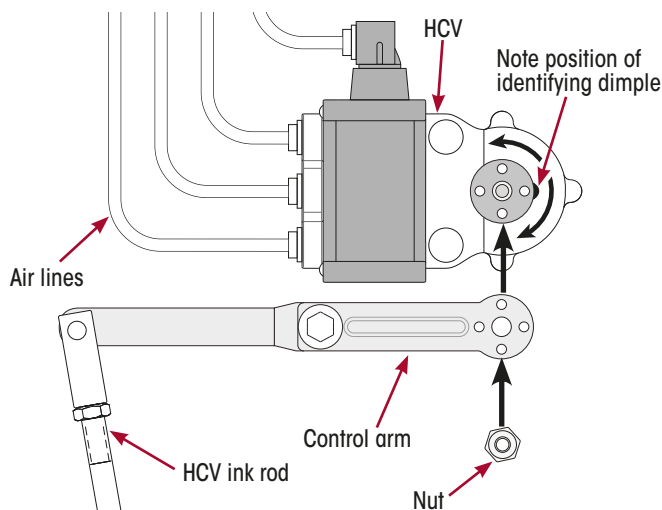

Figure 3: Note Component Location & Orientation
5. Find and carefully note the orientation and position of the HCV, air lines, arm and the identifying dimple on the HCV shaft. Photos taken with a mobile phone may be used as a handy reference. Refer Figure 3.